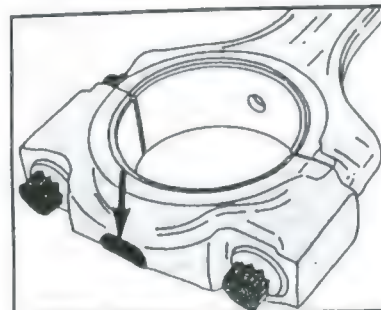

Fig. 1.31 - The connecting rods are marked at the position shown to indicate the bearing shell diameter.
- The big end bearing shells can be of two different diameters. At the lower end of the connecting rod bearing cap, at the position shown in Fig. 1.31, you will see one or two punch marks. If one punch mark is present, bearing caps with a blue paint mark (on the edge of the bearing shells) are fitted. If two punch marks are visible, as shown in the illustration, bearing shells without colour code are used.
- If connecting rods have been replaced check the bottom of the big end bearing caps. Either one or two punch marks are stamped into the centre of the cap, as shown in Fig. 1.31. These numbers refer to the bearing shells to be fitted. Shells with blue colour code (marked at the side of the shells) must be fitted if one punch mark is stamped into the cap.